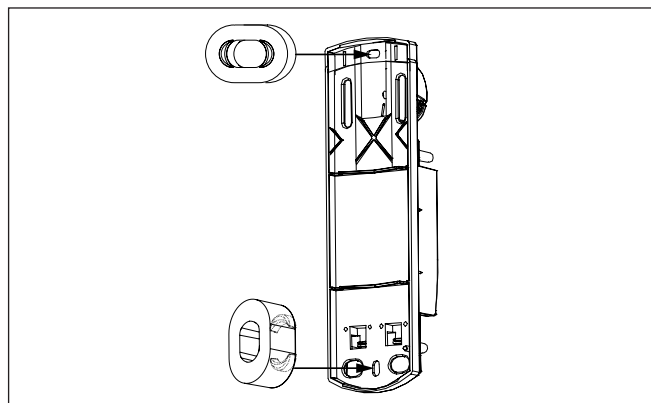

Fig. 2 Clipping the separate spacers into the threaded hole
- ▶ 2 spacers for wall and ceiling installation (Fig. 2)
- Separate spacers are included for wall and ceiling installation. They prevent cracking and deformation of the plastic (Fig. 2).
- Clip one of the included spacers in the threaded hole (horizontally or vertically, Fig. 2).